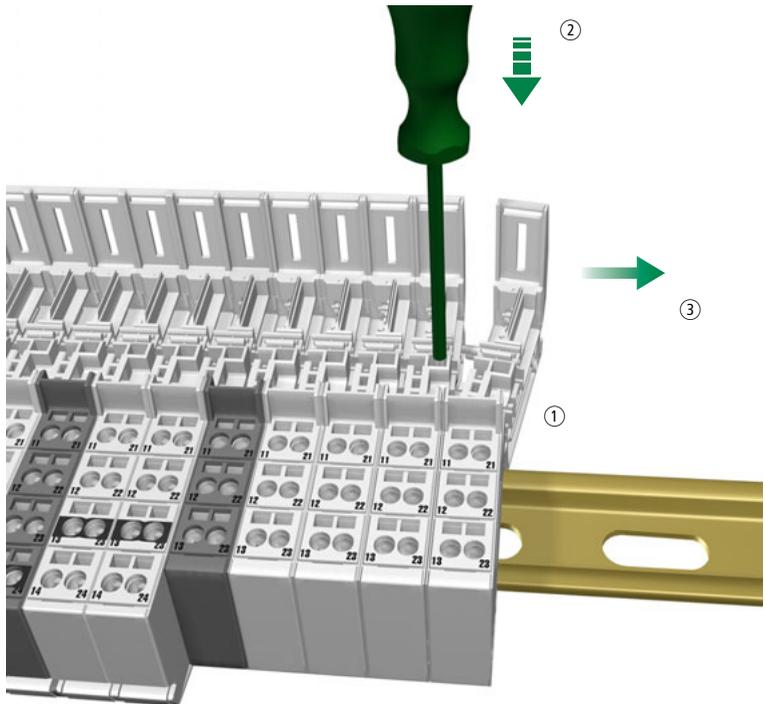
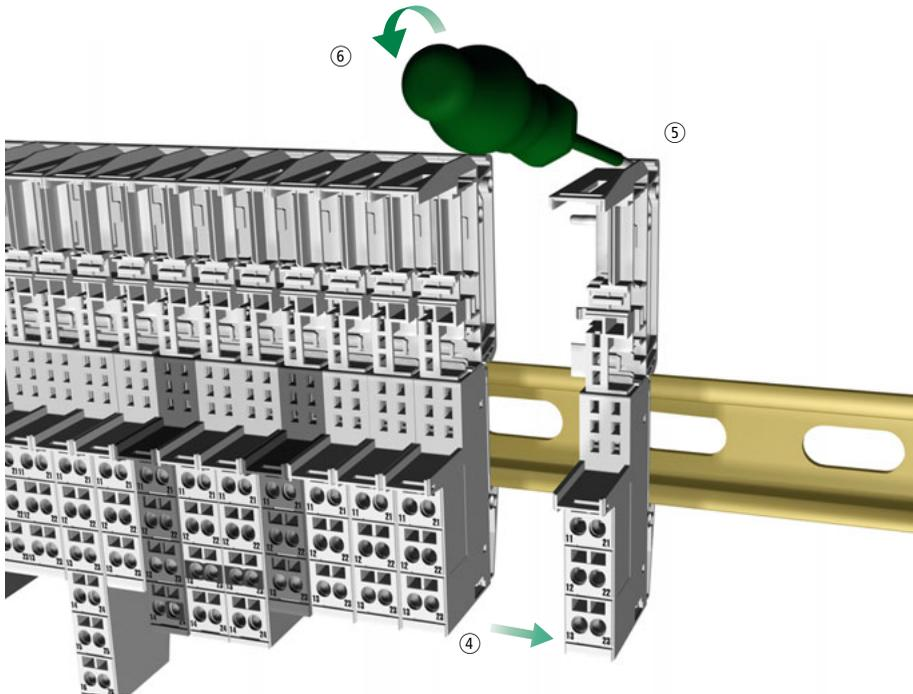

Figure 292: Dismounting base modules in slice design
Figure 293: Removing a base module from the mounting rail
- ▶ Carry out the steps indicated in Figure 292 and Figure 293. The method is identical at this point for both slice and block base modules.